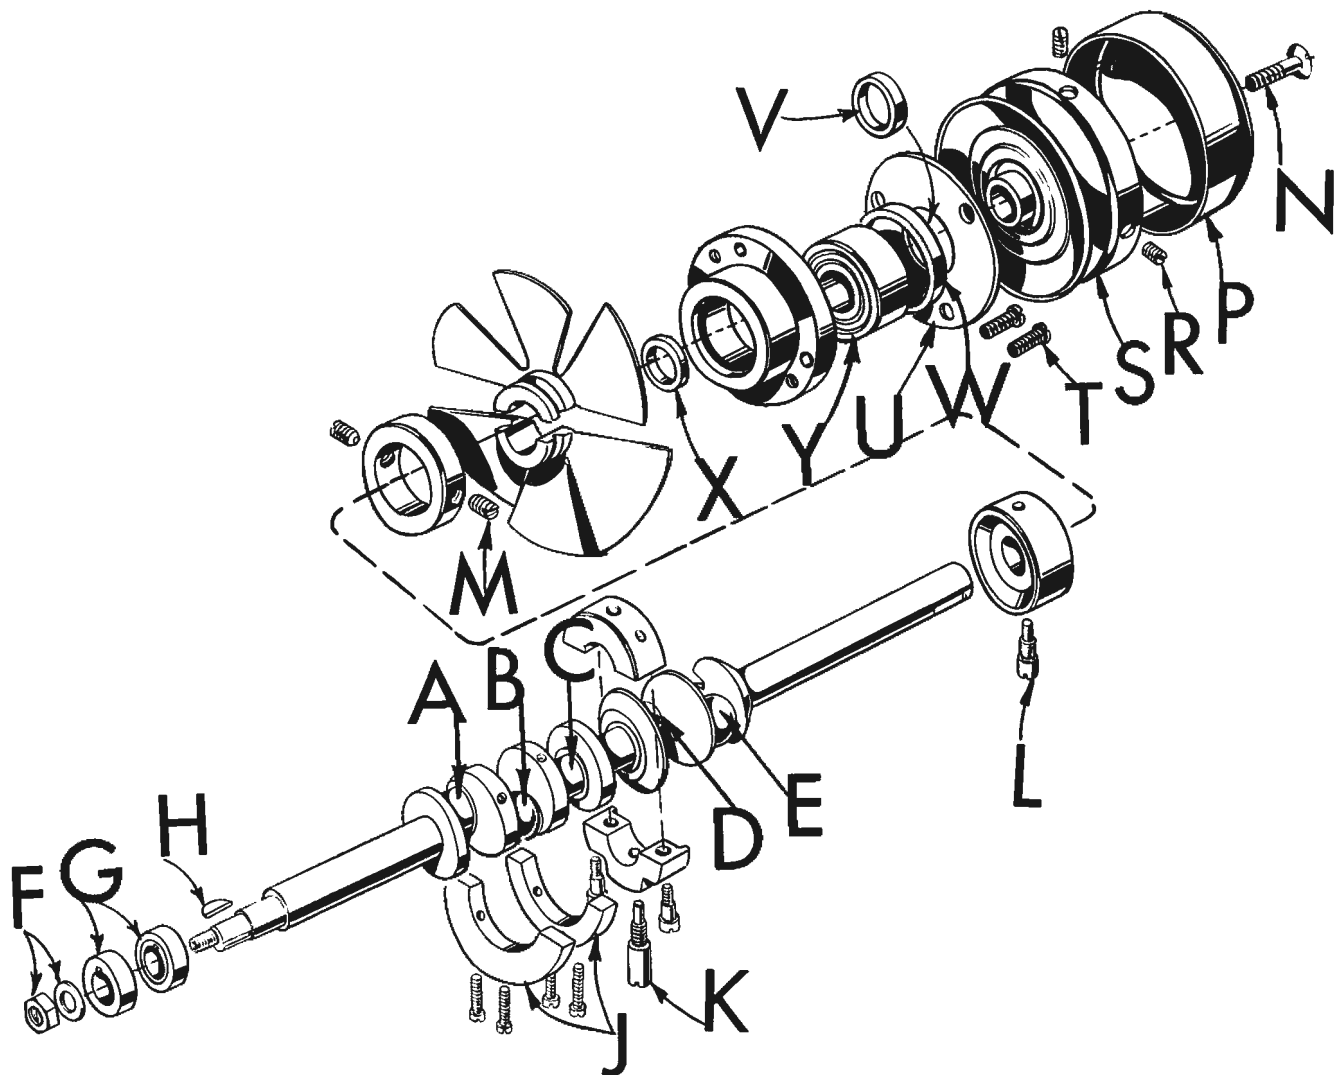
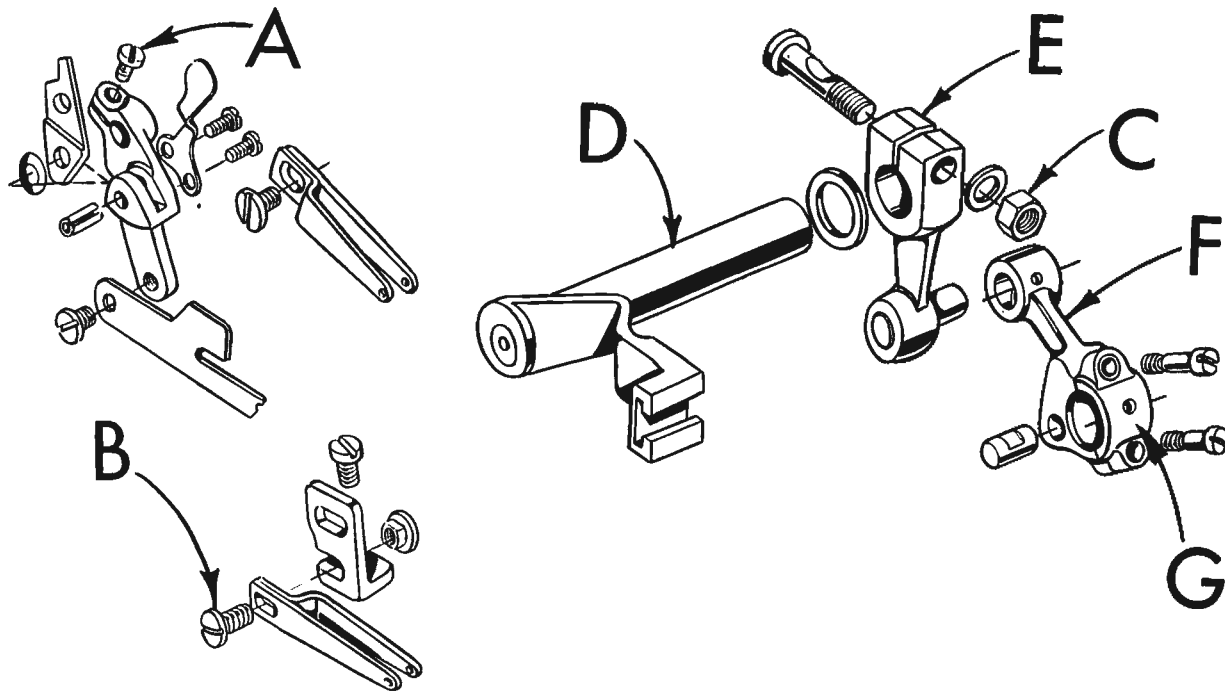

Fig. 25
Fig. 26
3. Remove the feed eccentric nut and washer (F, Fig. 25) and, with the aid of the eccentric extractor, slip off the eccentrics (G).
4. Remove key (H).
5. Remove two counterweights (J). Identify these counterweights so that they will be reassembled in the proper place.
6. Remove screw (K) which holds crankshaft split bearing. This screw is reached through bottom of bed casting.
8. Loosen clamp screw (A, Fig. 26) which holds eyelet bracket and swing bracket up. Loosen screw (B); swing eyelet up. Loosen clamp nut (C) which holds the upper knife driving arm (D). Access to clamp nut is through top cover. Draw driving arm to the left until upper knife driving lever (E) and connecting rod (F) drop, allowing removal of bearing cap (G). This is at bearing point (C, Fig. 25) on crankshaft. Observe same precautions when reassembling cap as described in paragraph 7.
9. Remove screw (L, Fig. 25) which holds inner right crankshaft bearing. This screw is reached through bottom of bed casting.
10. Loosen two screws (M) in fan collar; remove both halves of cooling fan.
11. Remove screw (N); take off pulley cap (P).
12. Loosen two screws (R); remove pulley (S).
13. Remove three screws (T); take off bearing retaining plate (U); also, spacer collars (V) and (W) may be removed at this time.
15. If necessary to replace ball bearing (Y), it can be pressed off shaft on an arbor press. In replacing the bearing it must be pressed on carefully until it seats against ground thrust washer (X).